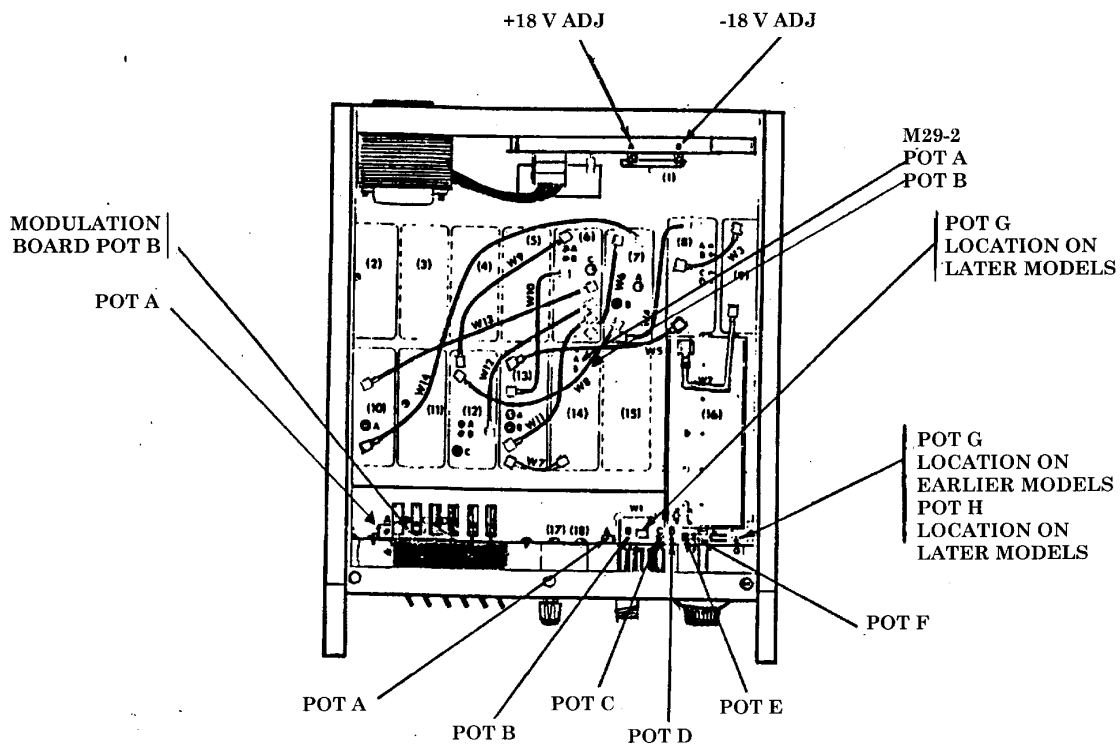

Figure 2. Test instrument - top view.
- (6) Adjust MODULATION BOARD POT A (fig. 2) for a $+5.00 \pm 01$ V dc indication on the digital multimeter (R).
(9) Adjust M29-2 POT B (fig. 2) to produce an indication of 2.000 MHz 100 Hz on frequency counter (R).
(10) Set **MODULATION FM/AM** slide control to full up position and adjust M29-2 POT A (fig. 2) to produce an indication of 2.100 MHz 100 Hz (R) on frequency counter.
(11) Set **MODULATION MODE** switch to **FMx1** and adjust MODULATION BOARD POT B on left side of board (fig. 2) to produce an indication of 2.010 MHz 100 Hz on frequency counter (R).
(1) Temporarily disconnect measuring receiver sensor module from TI.
(2) Set **OUTPUT VERNIER** control fully ccw and adjust meter board POT B (fig. 2) until meter needle bisects dot at left end of meter scale (R).
(3) Adjust **OUTPUT VERNIER** control fully cw and adjust meter board POT A (fig. 2) for a +3-dBm **OUTPUT** meter reading (R).
(4) Set **OUTPUT** step attenuator to **+10 dBm**.
(5) Connect measuring receiver sensor module to TI **RF OUTPUT**.
(6) Alternately adjust **OUTPUT VERNIER** control for a **0** and **-7 dBm** reading on TI **OUTPUT** meter while adjusting meter board POT F (fig. 2) for +10 dBm and POT E (fig. 2) for +3 dBm indications on the measuring receiver. Repeat the above until no further adjustments are required (R).
(7) Adjust **OUTPUT** step attenuator to **0 dBm**.
(8) Alternately adjust **OUTPUT VERNIER** control for a **+3** and **-6 dBm** reading on **TI OUTPUT** meter while adjusting meter board POT C (fig. 2) for +3 dBm and POT D for -6 dBm indications on the measuring receiver. Repeat the above until no further adjustments are required (R).